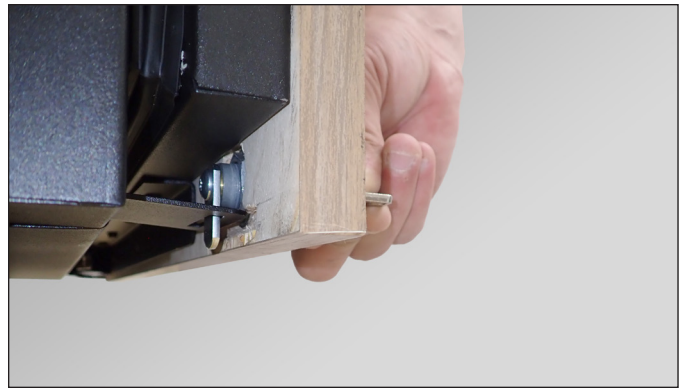

FIG. 6. Be sure the lock is correctly aligned with the lock bracket.
5. Install the door assembly. See figs. 6 and 7.